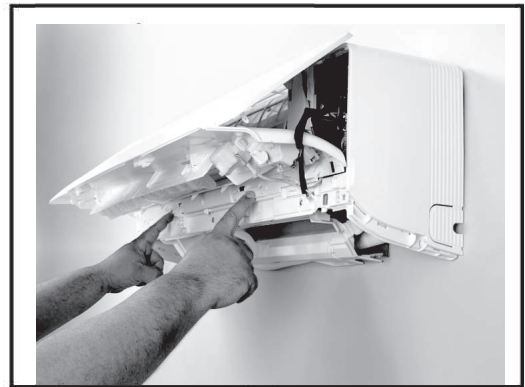
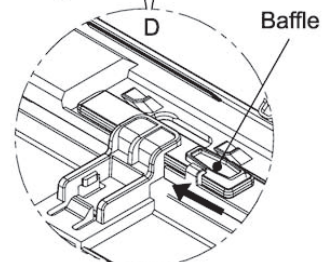

Fig. 11
Fig. 12
- 4) In the C position, open the front shell as shown in Fig. 11. Then in the D position, push the baffles to prevent the front shell from falling as shown in Fig. 12.